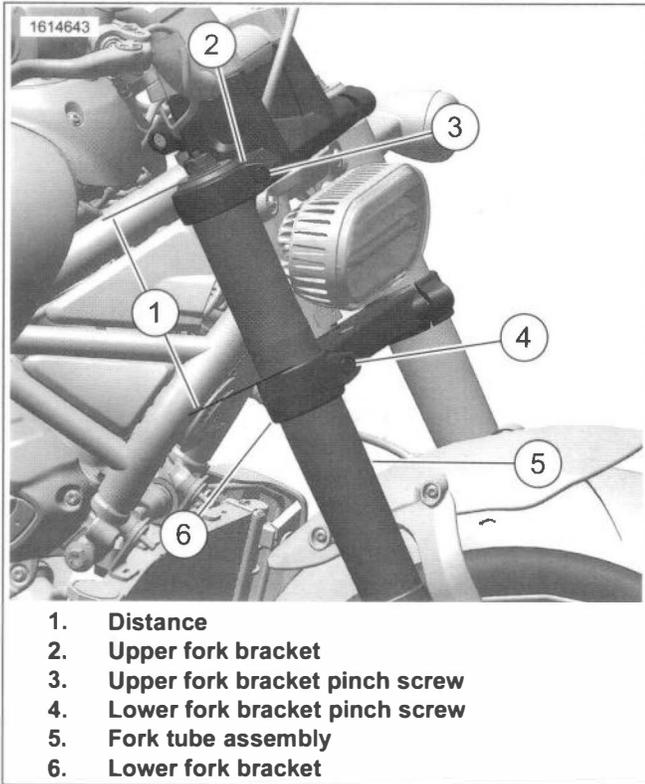

Figure 3-58. Front Fork Mount (typical)
1. See Figure 3-58 Remove front fork tube assemblies.
- b. Loosen lower pinch screws (4).
- c. Loosen upper pinch screws (3).
- d. Remove fork tube assemblies (5).
1. See Figure 3-58. Install front fork tube assemblies.
- a. Insert each fork tube assembly (5) through lower fork bracket (6), front turn signal lamp and upper fork bracket (2).
- b. Measure distance (1) from top of fork tube to top of lower fork bracket (6) to set fork height. Refer to Table 3-8.
- c. Tighten lower fork bracket pinch screws (4). Tighten. Torque: 15–18 ft-lbs (20.4–25 N·m) *Fork bracket, lower, pinch screw*
- d. Tighten upper fork bracket pinch screws (3). Tighten. Torque: 15–18 ft-lbs (20.4–25 N·m) *Fork bracket, upper, pinch screw*